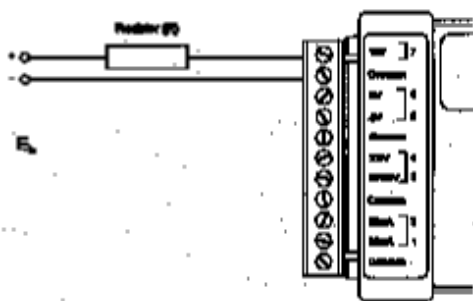

Figure 7-4: Extended Voltage Range on 10V Channel
The 10 volt channel can be modified to span higher ranges (greater than 10 volts DC) by adding a single resistor to the "10V" terminal shown in Figure 7-4. The value of the resistor R must be calculated by following formula based on the desired voltage input range (E_{in}):
The 5 volt and 2.5 volt channels can be modified to span higher ranges (greater than 5 and 2.5 volts DC respectively) by adding single resistor, in the same way as shown for a 10V channel in Figure 7-4 to the "5V" and "2.5V" terminals. The value of the Resistor (R) can be calculated by the following equations based on the desired voltage input range (E_{in}). Then a final Range can be determined to write an **Equation** for TrendReader for Windows.